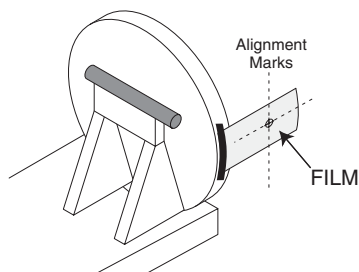

Figure 11-9 Alignment Marks on Film
- 6.) After the film is developed, transfer the table marking to the film itself while keeping the orientation correct (Figure 11-9).